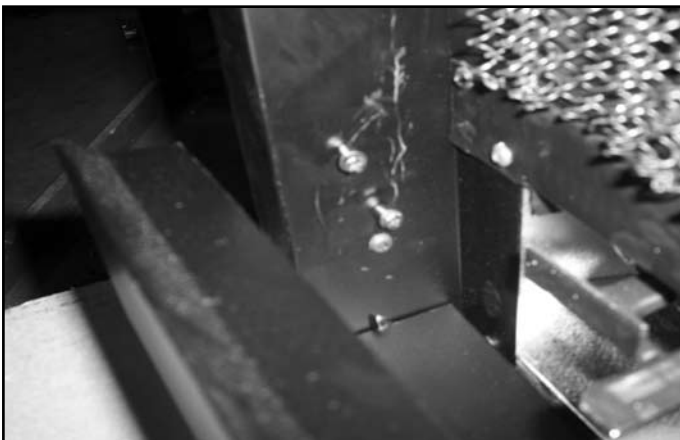

Figure 15.12 Attach Bottom Grille
- Attach the bottom grille by aligning slots of bottom grille with shoulder screws in columns. See Figure 15.12.